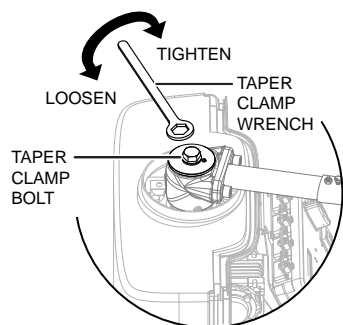

Figure 9. Taper Clamp Bolt and Taper Clamp Wrench
2. Loosen the taper clamp bolt with the taper clamp wrench (Figure 9).